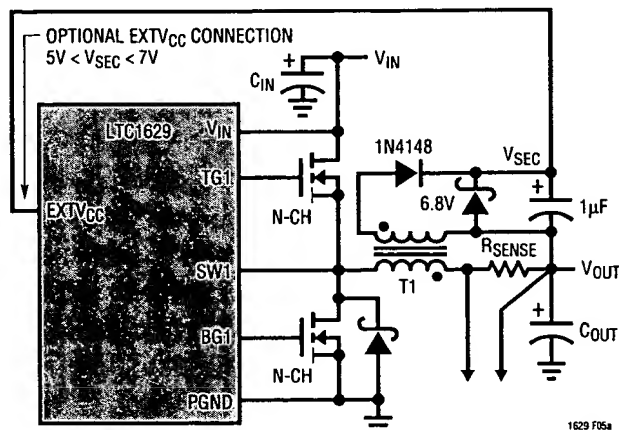
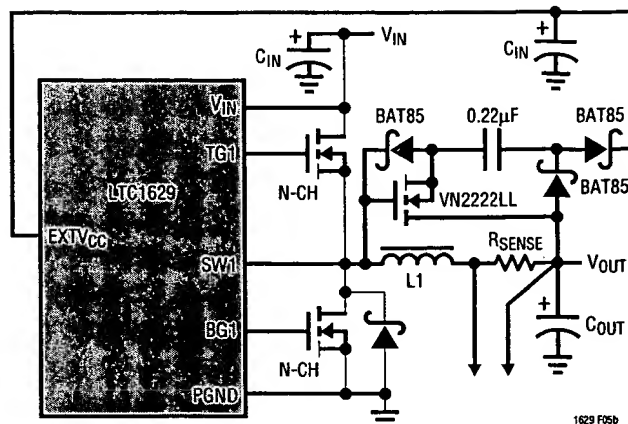

Figure 5a. Secondary Output Loop and EXTVCC Connection
Figure 5b. Capacitive Charge Pump for EXTVCC
4. EXTVCC connected to an output-derived boost network. For 3.3V and other low voltage regulators, efficiency gains can still be realized by connecting EXTVCC to an output-derived voltage which has been boosted to greater than 4.7V but less than 7V. This can be done with either the inductive boost winding as shown in Figure 5a or the capacitive charge pump shown in Figure 5b. The charge pump has the advantage of simple magnetics.